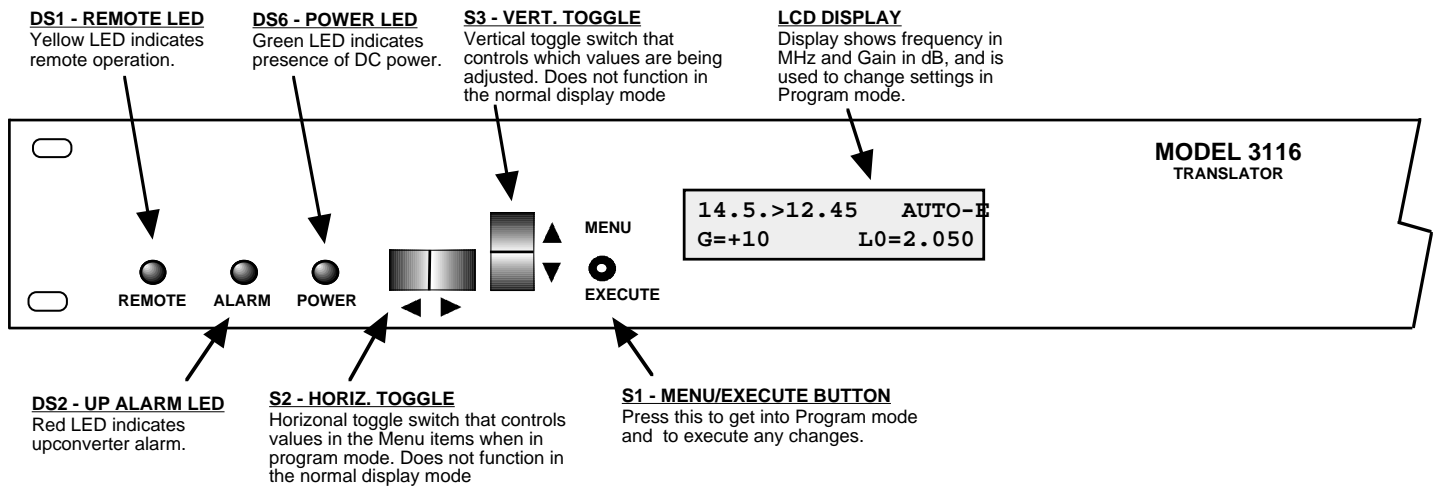

FIGURE 2.3 3116-T21-145109 Front Panel Controls and Indicators
Figure 2.3 shows the front panel controls and indicators.
4. Be sure DS6 (green, DC Power) is on and DS2 (red, Alarm) is off (Figure 2.3).
2.5.1 Functions - This section describes operation of the front panel controls. There are three operator switches, the LCD display and alarm indicator LEDs. All functions for the equipment are controlled by these components. The functions are (see Figure 2.3):
Alarm indications appear on the LEDs (See figure 2.3).